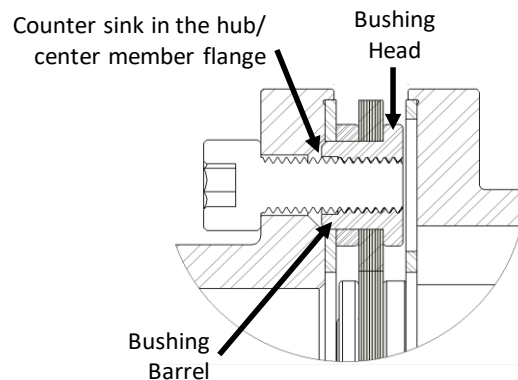

Figure 8
- n) The bushing heads should be opposite the counter sinks in the hub and center member flanges. See Figure 8.